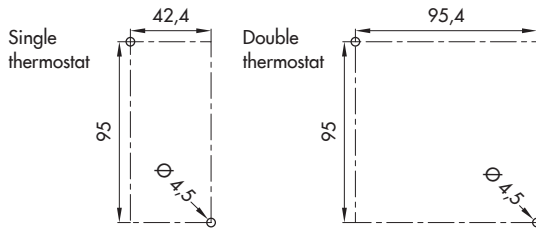

Fig. 5-4: Drill templates · Dimensions in mm
1. Drill holes in wall as shown in Fig. 5-4.
2. Insert the seal (6).